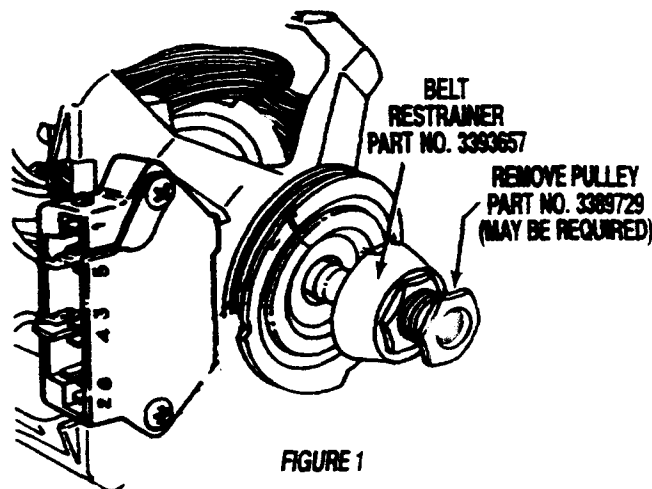

FIGURE 1
- 3. Remove pulley from replacement motor by using two (2) open end or adjustable wrenches. Place one on the motor shaft, right behind the pulley, and the other on the pulley. Holding the motor shaft in place with one (1) wrench, turn pulley with other wrench in counterclockwise direction to remove pulley. See Figure 1.